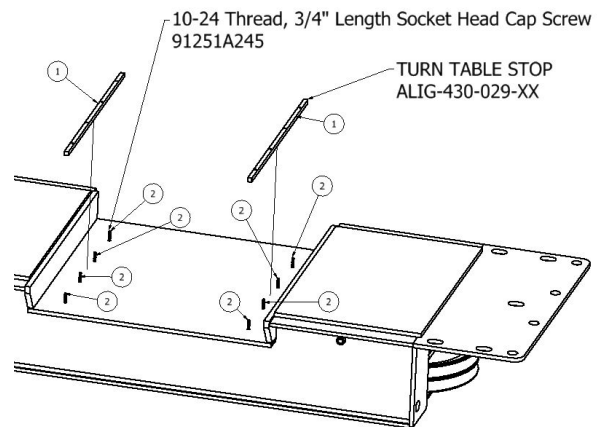

Fig 14 – Alignment Turn Plate Installation
- 42) Position Front Turn Plates (SOLD SEPARATELY) and install TURN TABLE STOPS (ITEM 1 PART NUMBER ALIG-430-029-XX) to runway using (8, ITEM 2) #10-24 x 0.75" Socket Head Cap Screws. Ensure that the Turn Plates will slide freely and tighten Guide Bars. Reference **Fig 14** and Fig L